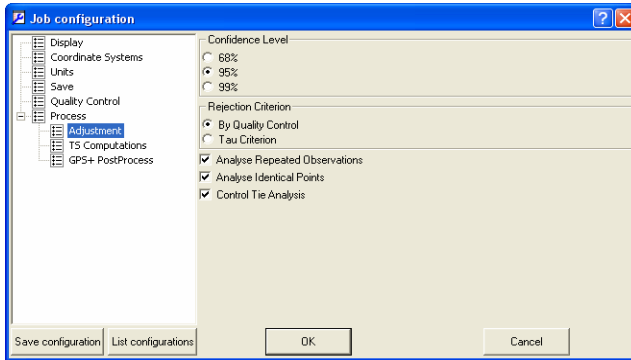

Figure 2-36. Job Configuration – Adjustment
- The *Adjustment* tab sets the confidence level for adjustment, the rejection criteria for quality control, and the tests to be performed before network adjustment (Figure 2-36). The default confidence level is 95% and the default rejection criterion is By Quality Control.